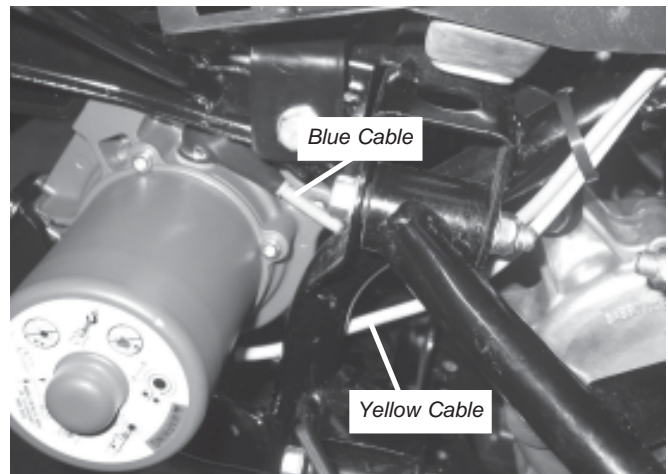

Figure 15 Connect Yellow and Blue Electrical Cables
16. Place the motor terminal boots on the supplied yellow and blue electrical cables. Connect the yellow and blue cables to the motor terminals on the winch, figure 15. Tighten the motor terminal nuts to the recommended torque of 5.7 N-m (50 lb-in). Slide the motor terminal boots over the motor terminals.